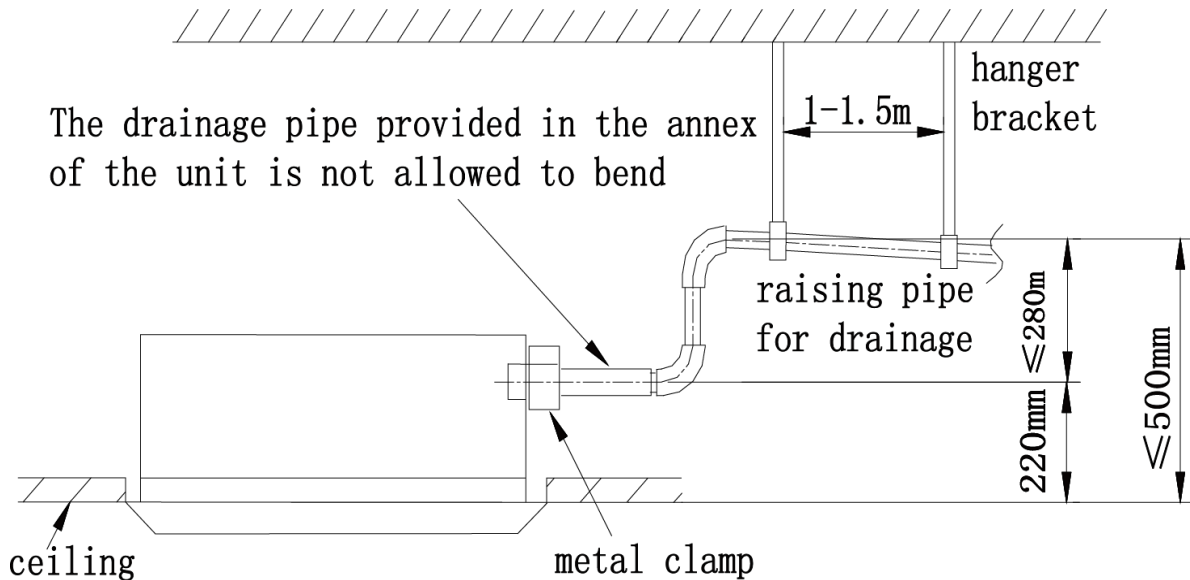

Fig 4.3.5
- (11) The installation height of raising pipe for drainage should be lower than 850mm. The gradient from raising pipe towards drainage direction should be at least 1%~2%. If the raising pipe is vertical with the unit, the raising height should be less than 800mm., as shown in Fig 4.3.5.